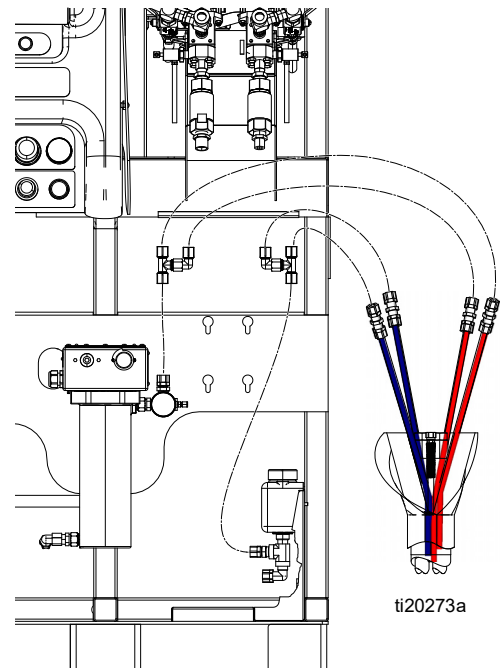

FIG. 21
3. Connect the two red tubes in the bundle to the tube tee on the red tube on the front of the machine. Do the same for the blue tubes. See FIG. 21.